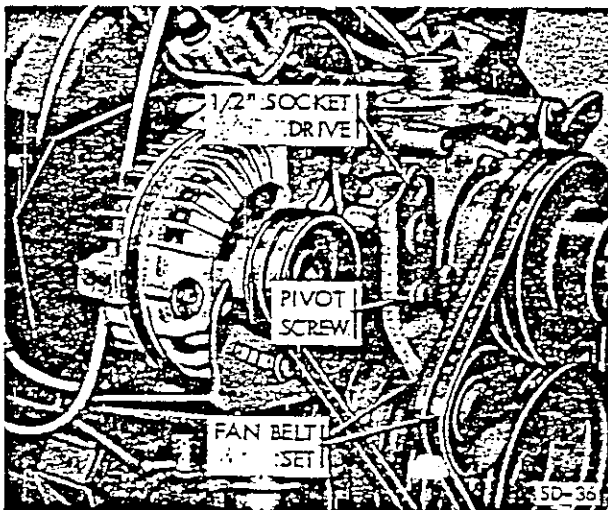

Figure 13-3. Fan Belt Adjustment
d. Fan Belt Adjustment (fig. 13-3). This procedure requires the use of a belt tension gauge.
(1) Loosen bolt in slotted hole of fan belt idler arm, then loosen pivot bolt.
(2) Insert a 1/2-inch socket drive in square hole of idler arm, then press idler arm toward center of engine to tighten each belt to 100 foot-pounds tension. Torque lock-bolt in idler arm slotted hole to 100 foot-pounds.
(3) Tighten pivot bolt.